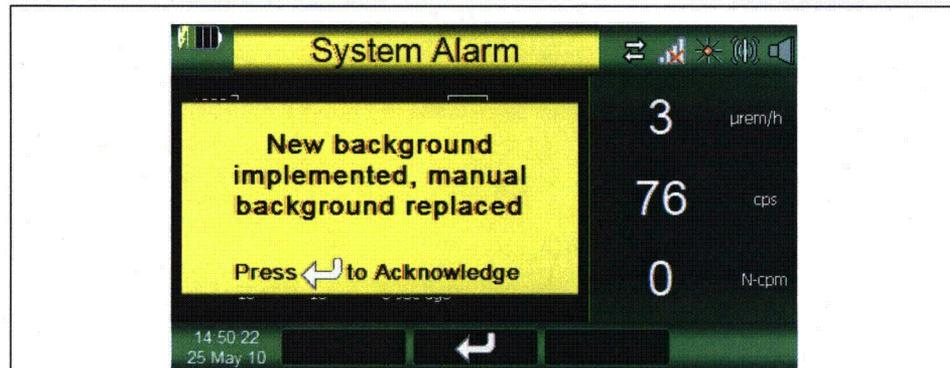

Figure 4-8 New Background Implemented System Alarm
2. A popup displays "New background Implemented Manual Background Replaced." Press the "Select" key to acknowledge the message (see Figure 4-8).